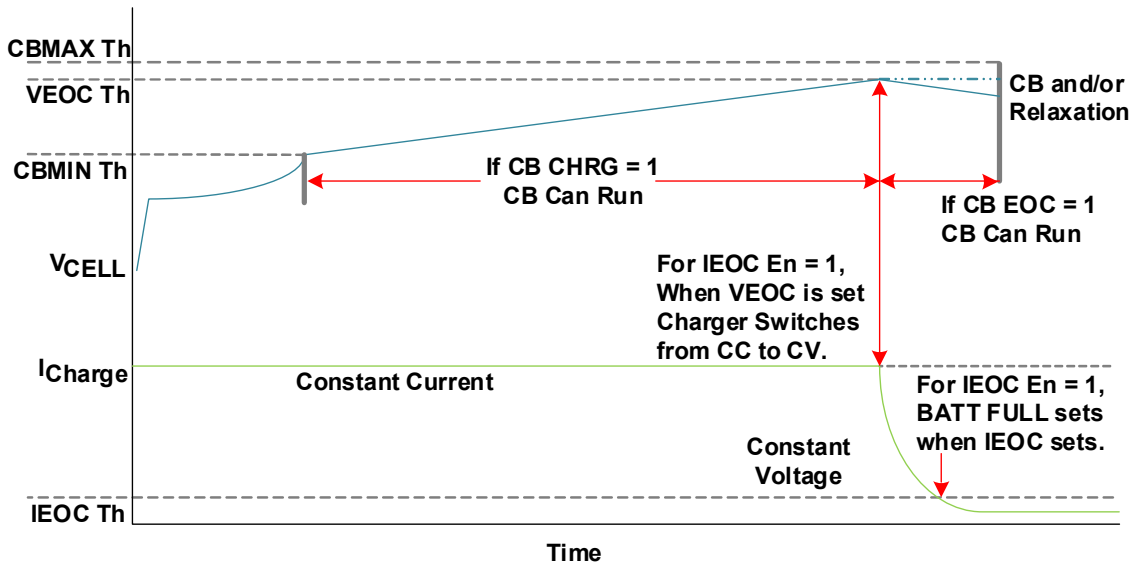

Figure 108. A Typical Charge Characteristic Curve
The ISL94216A has features that support both Constant Current (CC) and Constant Voltage (CV) charging. A typical charging profile for a battery cell is depicted in Figure 108. Cell balancing can occur only when the cell voltage is between the CBMIN and CBMAX limits, which are independent of CB EOC and CB CHRГ bit settings.